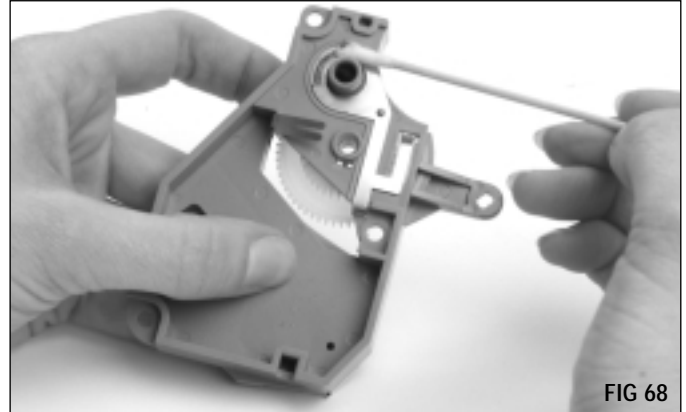

FIG 68
8. Clean the mag roller electrical contact on the right end plate with a swab (Item Code: QTIP) or (Item Code: LFSWAB) dampened with 91-99% isopropyl alcohol. (FIG 68)